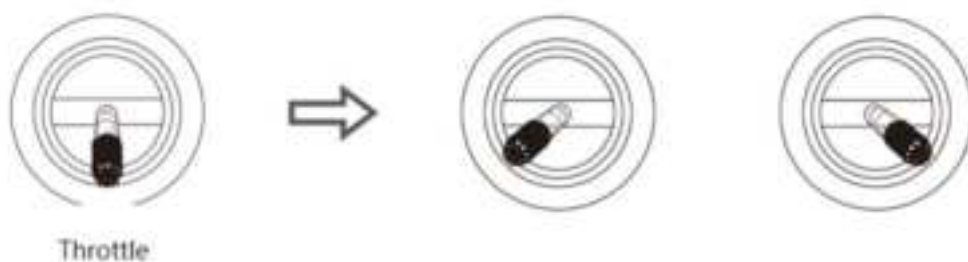

Figure 2-6 Lock and Land
**Step2:** After the drone lands, place the throttle stick to the down position, and then perform the locking action as shown in Figure 2-6.